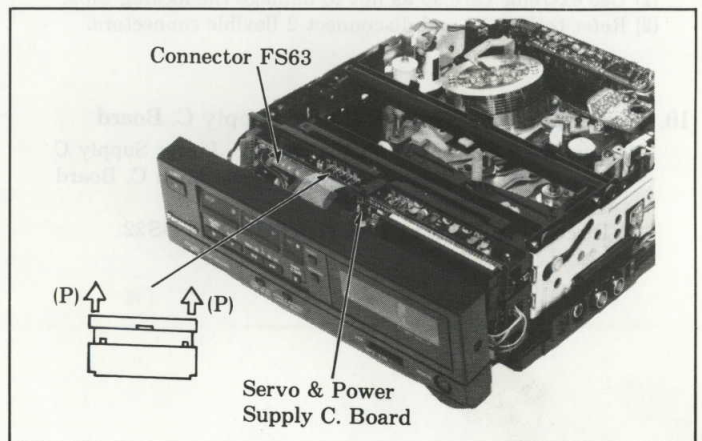

Fig. 12 Removal of the Key Board Unit-(1)
- (1) Use extreme care so as not to damage the locking tabs.
- (2) Refer to Fig. 12 and disconnect 2 flexible connectors.